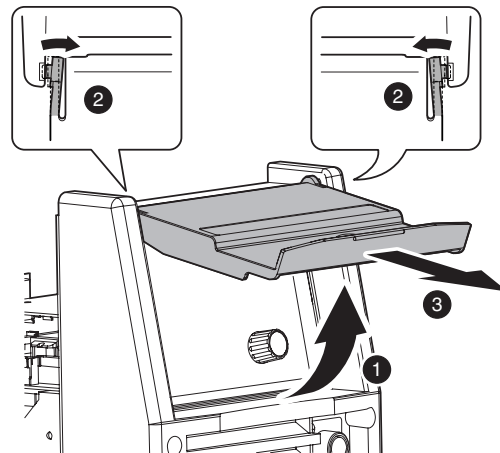

Figure 7-1: VRD ON/OFF Step A
- Remove the clear plastic cover from the control panel (see Figure 7-1).